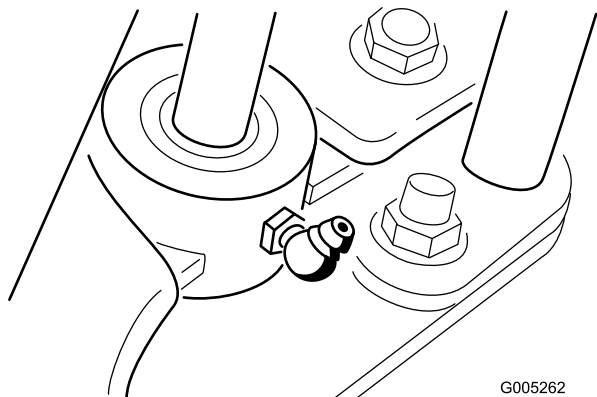

Figure 19
5. Wipe the grease fittings with a clean rag (Figure 19).